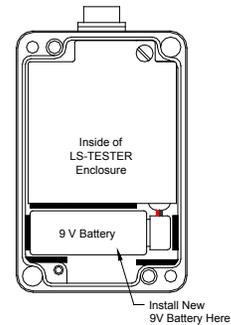

Figure 3: Replace Battery
- Install a new 9V battery by connecting it to the 9V battery snap connector & reinserting it into the LSTESTER. Replace the back cover & tighten down the M4 screws. Reference Figure 3. Dispose of the used battery by recycling.